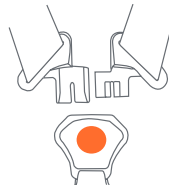
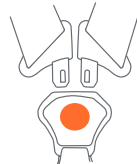

Fig. 38-1
Fig. 38-2
- Type A: Put the two buckle tongues together, overlaying the left buckle tongue onto the right buckle tongue, and insert the two joined buckle tongues into the harness buckle on the crotch strap (Fig. 38-1). Type B: Insert each buckle tongue into the harness buckle (Fig. 38-2). Make sure that you hear the tongues click into the buckle and check that both are firmly latched by pulling upward on the straps. **If the harness straps are not securely buckled, the safety seat will NOT provide protection for your child. DO NOT use the safety seat, even as a carrier, if the harness does not securely buckle. Please call Baby Trend at 1-800-328-7363 for assistance.**